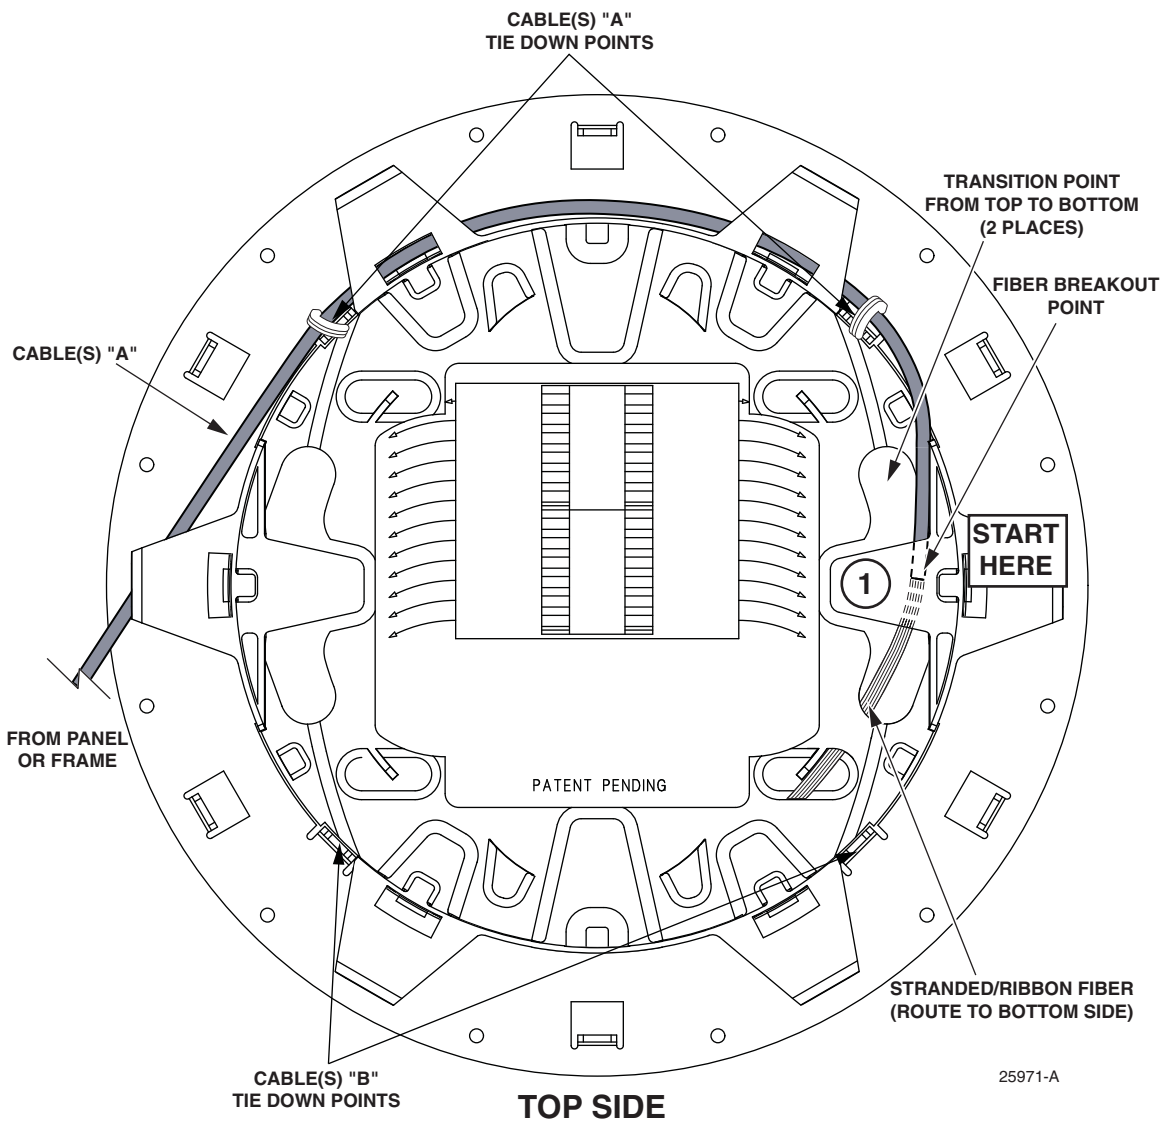
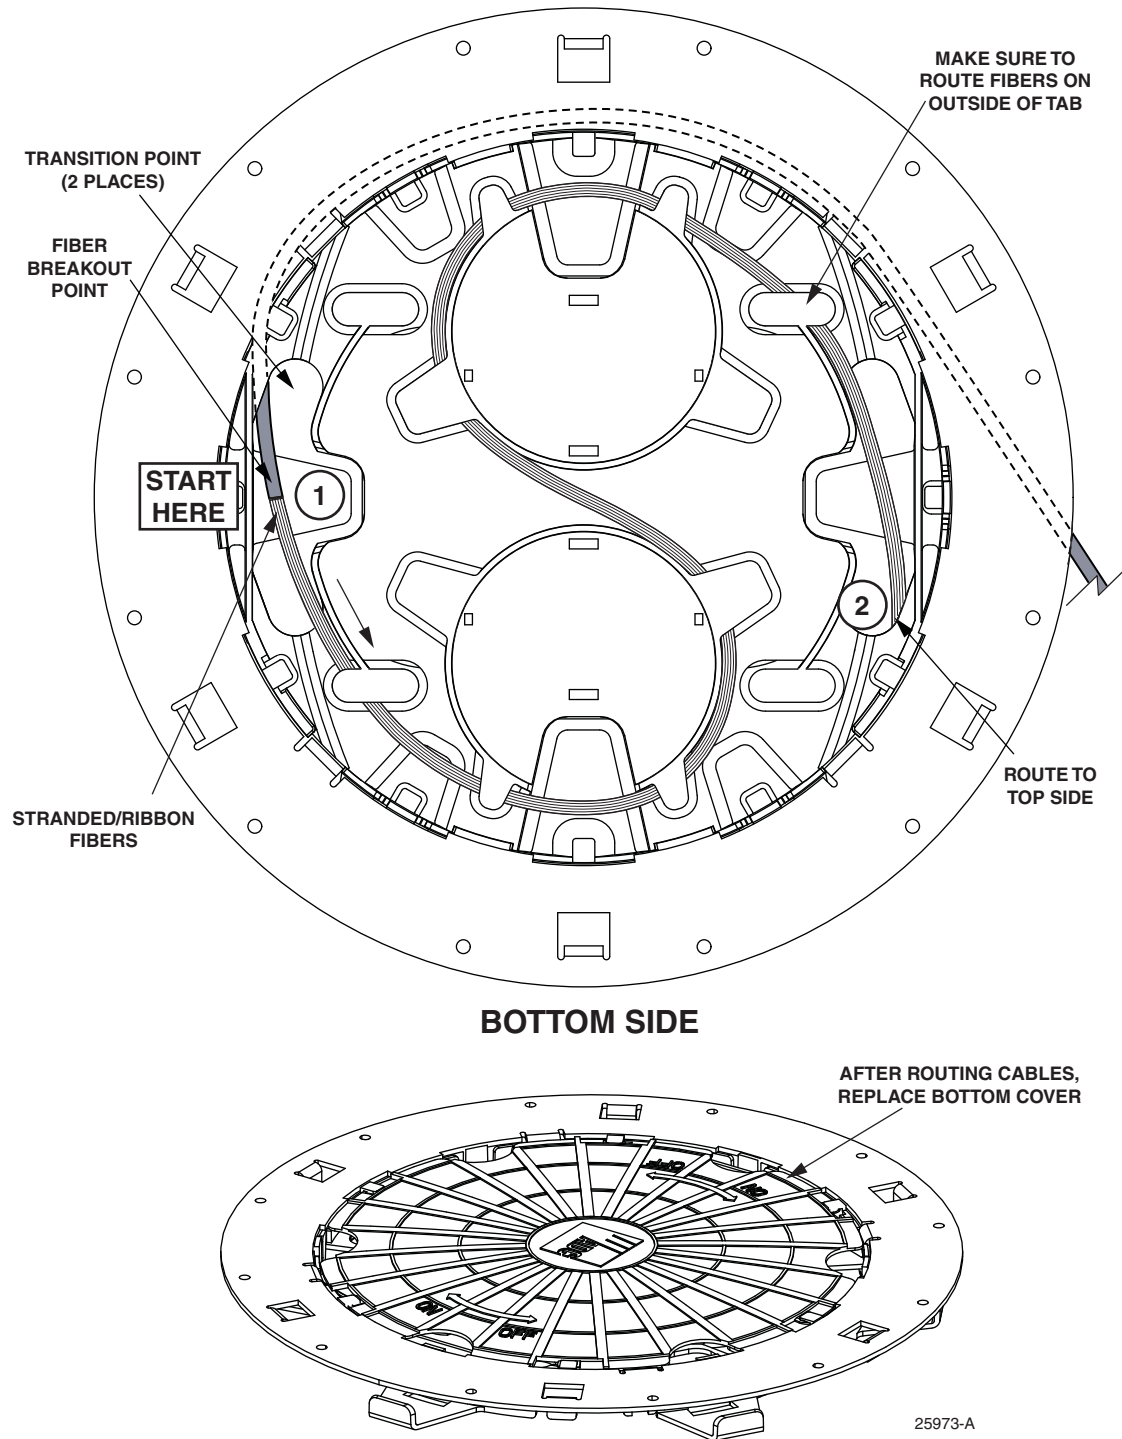
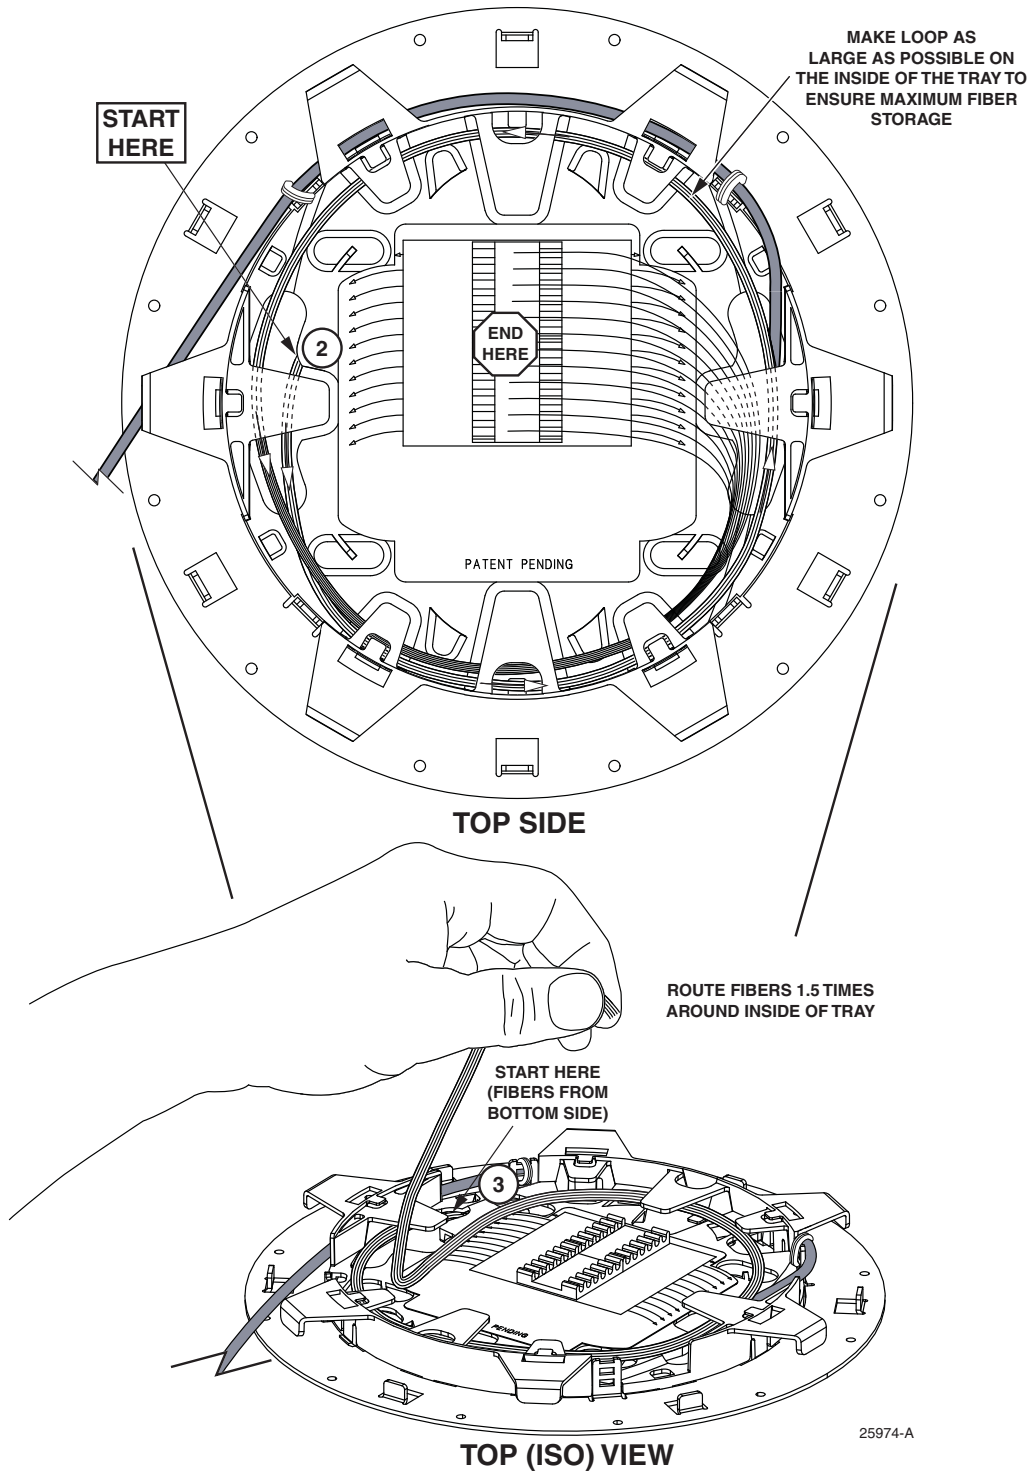

Figure 4. Cable(s) "A" Routing, Top Side (Clockwise Roll-Up Procedure)
Figure 5. Cable(s) "A" Routing, Bottom Side (Clockwise Roll-Up Procedure), continued
Figure 6. Cable(s) "A" Routing, Top Side (Clockwise Roll-Up Procedure), continued
1. Route the cable so the fiber breakout is positioned at the transition point from top to bottom (refer to the "circled 1" in Figure 4). Then route and tie down cable(s) "A" as shown in Figure 4. (If multiple cables are used, route cables simultaneously.)
► **Note:** The circled numbers shown in Figure 4, Figure 5, and Figure 6 are provided as an orientation aid when flipping the cable tray over.
2. Flip the tray over and continue routing cable(s) "A" around the spools and back to the top side, as shown in Figure 5. After routing cable(s) on bottom side, replace bottom cover.
3. Flip the tray over to the top side and route cable(s) "A" to the splice tray area as shown in Figure 6. Make sure to route the stranded/ribbon fibers 1.5 times around the inside of the tray making the loop as large as possible to ensure maximum fiber storage.